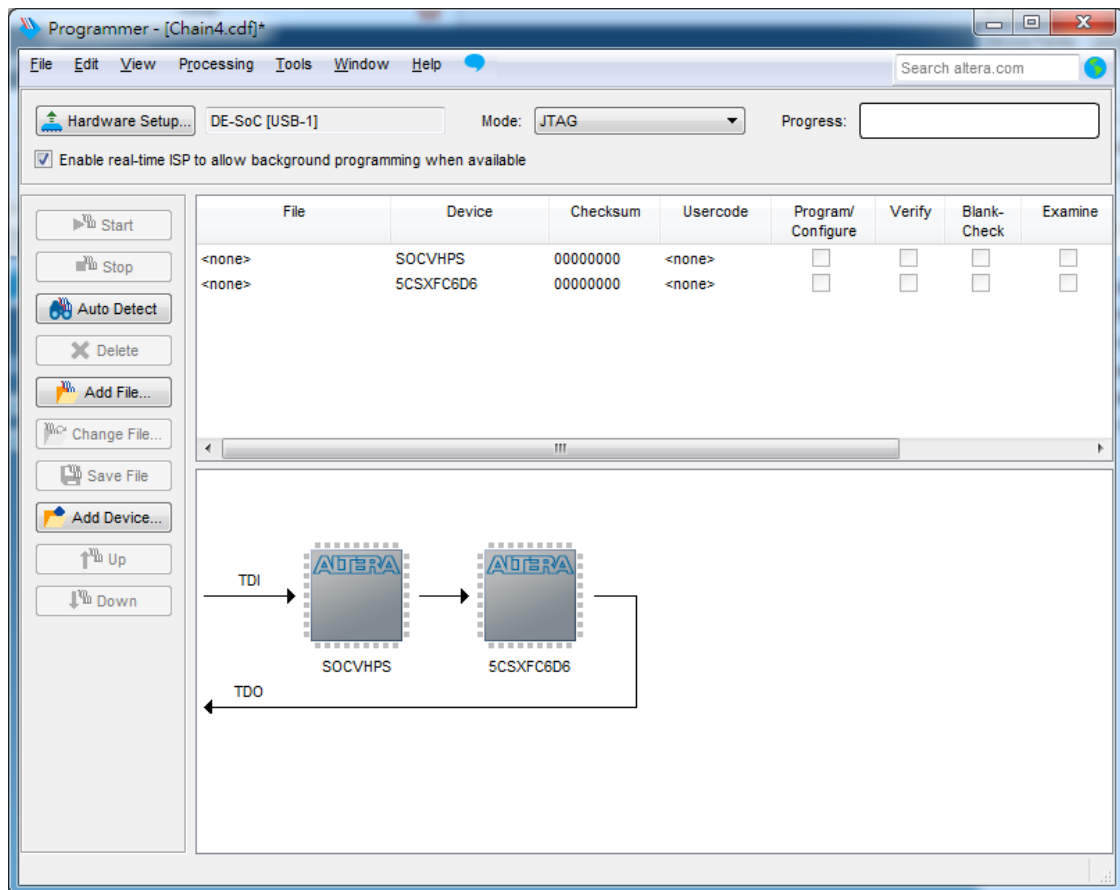

Figure 3-5 FPGA and HPS detected in Quartus programmer
3. Both FPGA and HPS are detected, as shown in Figure 3-5.